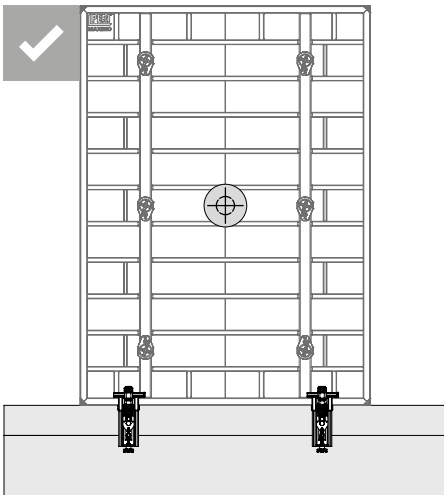

Fig. B1.04
- An individual formwork element must always cover two wall formwork consoles. (Fig. B1.04)